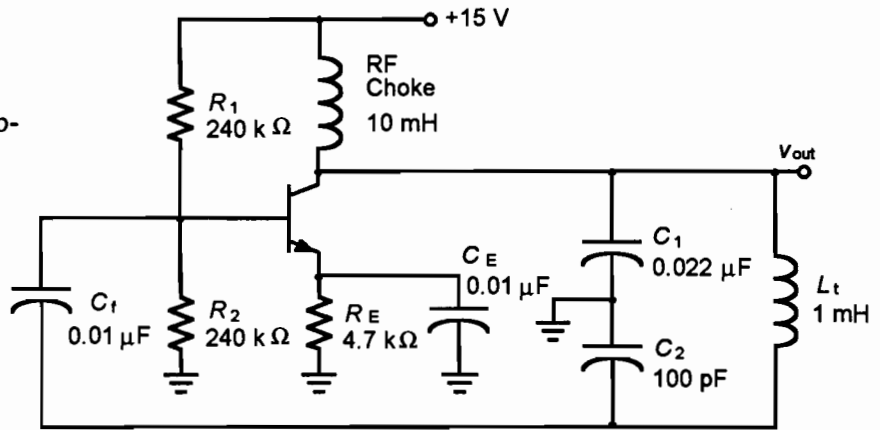

Figure 51.1
1. Construct the circuit in Figure 51.1.